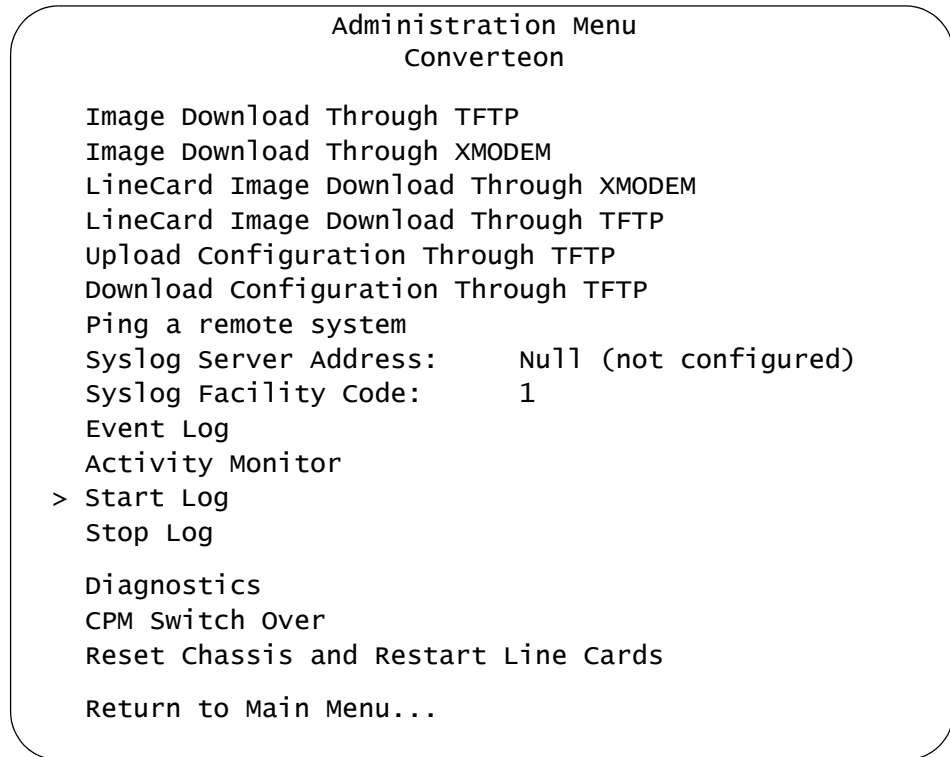

Figure 18. Administration Menu
The Administration Menu, as shown in Figure 18, is displayed.
The Administration Menu, as shown in Figure 18 on page 54, is displayed.
2. The Administration Menu, as shown in Figure 18 on page 54, is displayed.